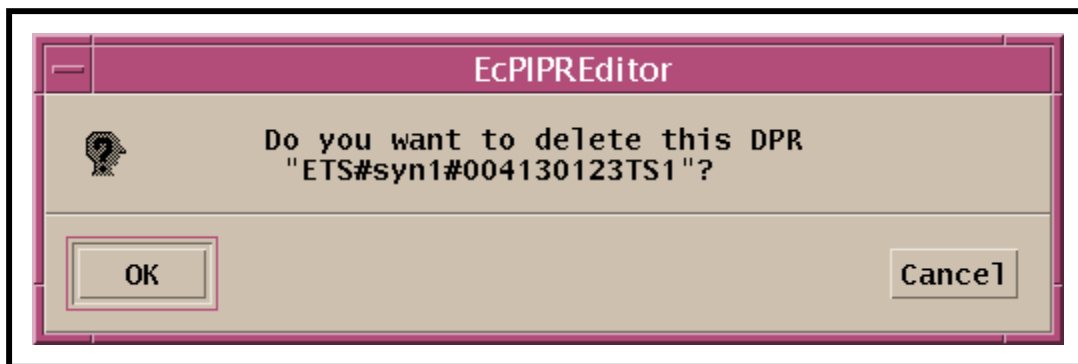

Figure 33. DPR Deletion Confirmation Dialogue Box
- A DPR deletion confirmation dialogue box (similar to Figure 33) is displayed requesting confirmation of the decision to delete the DPR.